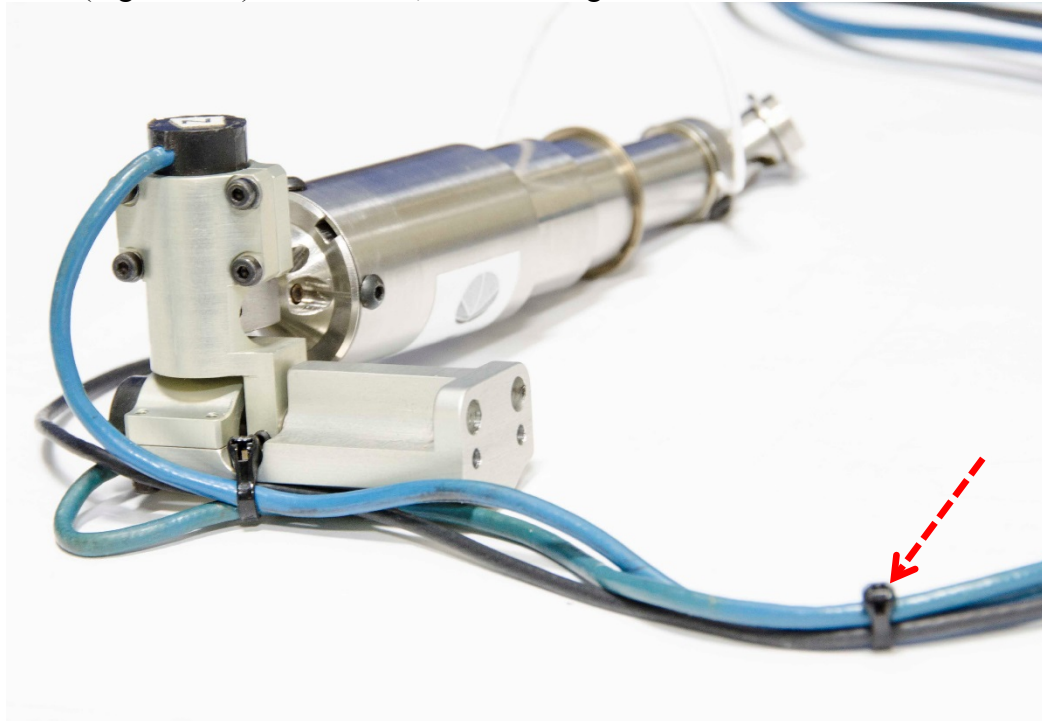

Figure 6-18. Tie off IR-TRACC wires for strain relief
6.2.2.12 Tie off the transducer wires leaving approximately 140 mm of cable slack (Figure 6-18). In addition, tie the wiring to the lower IR-TRACC base.